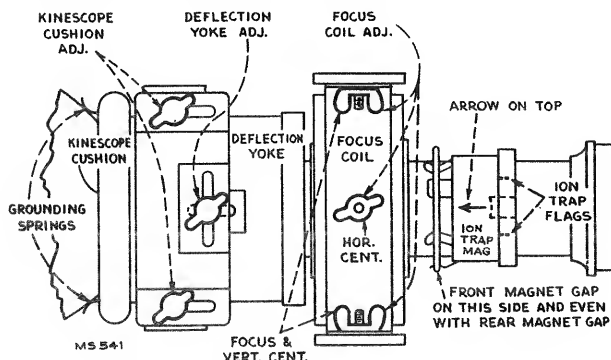
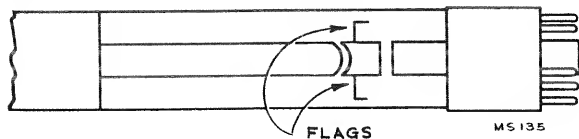

Figure 2—Yoke and Focus Coil Adjustments
Figure 4—Ion Trap Flags
Loosen the two kinescope cushion adjustment wing screws and slide the cushion toward the rear of the chassis. Loosen the deflection yoke adjustment, slide the yoke toward the rear of the chassis and tighten. See Figure 2 for the location of the cushion and yoke adjustments.
**INSTALLATION OF KINESCOPE**—The kinescope second anode contact is a recessed metal well in the side of the bulb. The tube must be installed so that this contact is approximately on top. The final orientation of the tube will be determined by the position of the ion trap flags. Looking at the kinescope gun structure, it will be observed that the second cylinder from the base inside the glass neck is provided with two small metal flags, as shown in Figure 4. The kinescope must be installed so that when looking down on the chassis, the two flags will be seen as shown in Figure 2.
Early production receivers employed an EM type of ion trap magnet like that in the model 630TS receiver. Late production receivers employed a PM type magnet as shown in Figure 2.
If the PM type is employed, slip the assembly over the neck of the kinescope with the large magnet towards the base of the tube and with the arrow on the assembly up as shown in Figure 2. The front magnet is movable on the assembly. The correct position of the front magnet is with the gap on the left side (from the rear of the cabinet) and even with the gap of the rear magnet.
**ION TRAP MAGNET ADJUSTMENT**—The ion trap rear magnet poles should be approximately over the ion trap flags as shown in Figure 2. Starting from this position adjust the magnet by moving it forwards or backwards at the same time rotating it slightly around the neck of the kinescope for the brightest raster on the screen. Reduce the brightness control setting until the raster is slightly above average brilliance. Adjust the focus control (R184 on the chassis rear apron) until the line structure of the raster is clearly visible. Readjust the ion trap magnet for maximum raster brilliance. The final touches on this adjustment should be made with the brightness control at the maximum position with which good line focus can be maintained.